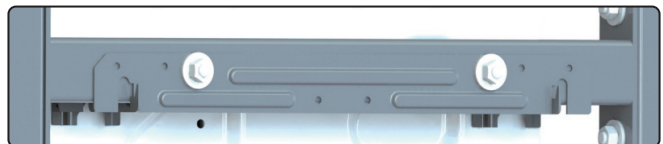

Figure 8 - Secured Top Mounting Bracket for Back to Back Appliance Mounting
1. b. If mounting two(2) appliances to the rack, use a 10mm Ratchet or Socket Driver and wrench and two(2) M6 bolts and included washers and nuts to mount two(2) top mounting brackets to the upper beam of the rack. See Figure 8.